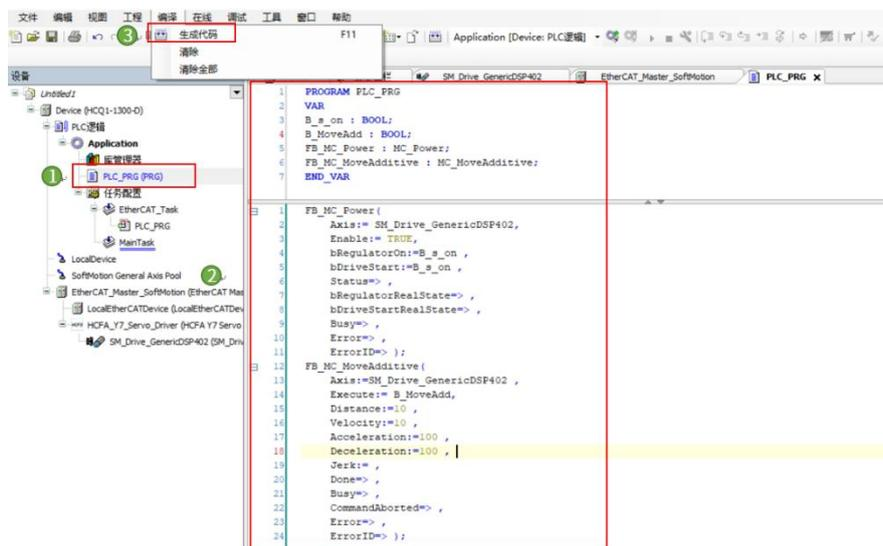

Figure 13-16 Test code
10. Double-click to open [PLC\_PRG], edit the test code as shown in the figure, and click [Compile- Code Generation], as shown in Figure 13-16.